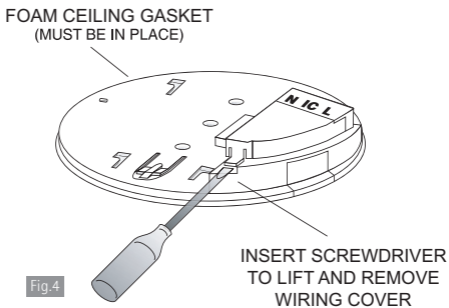

Fig.4
3. Lift off the wiring cover using a flat head screwdriver as shown in Figure 4.